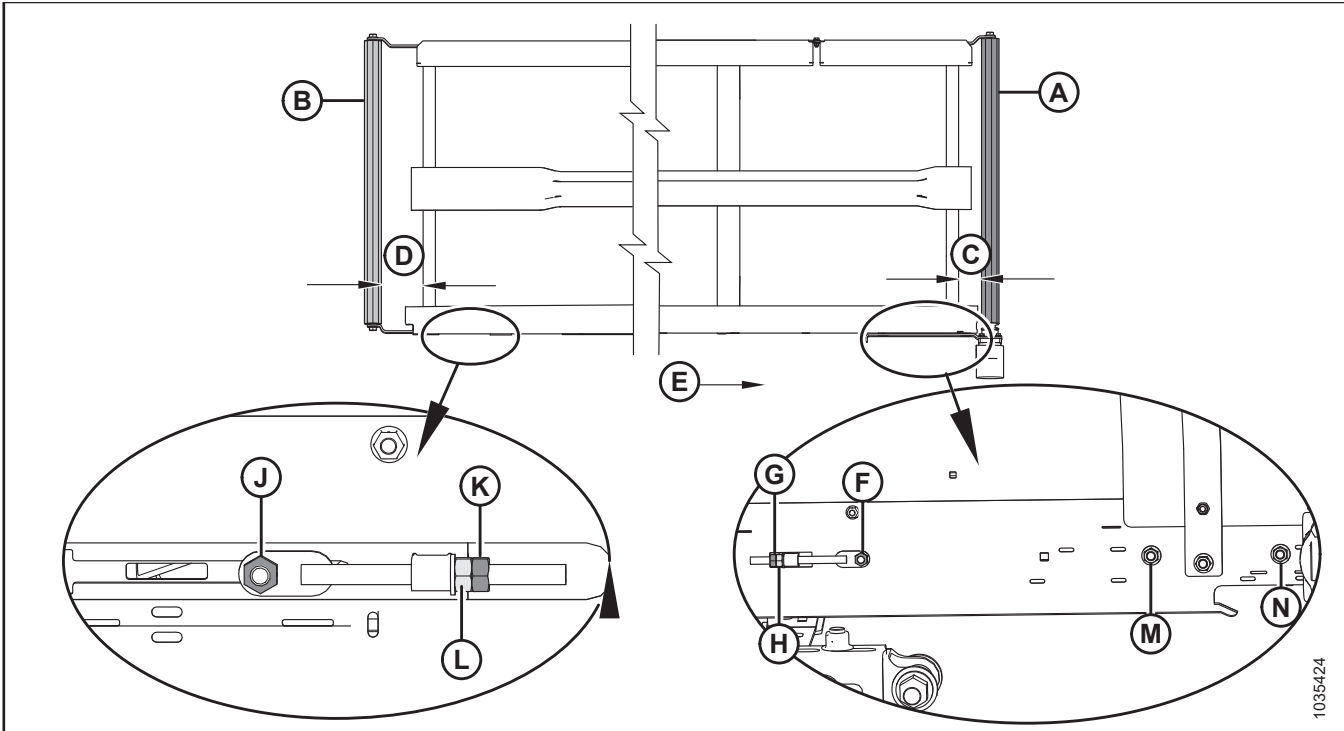

Figure 4.233: Draper Tracking Adjustments – Left Draper
2. Adjust drive roller (A) to change **C** (refer to Table 4.2, page 698 and Figure 4.233, page 698) as follows:
- a. Loosen nuts (F), (M), and (N), and jam nut (G).
- b. Turn adjuster nut (H).
- c. Tighten nuts (F), (M), and (N), and jam nut (G).
3. Adjust idler roller (B) to change **D** (refer to Table 4.2, page 698 and Figure 4.233, page 698) as follows:
- a. Loosen nut (J) and jam nut (K).
- b. Turn adjuster nut (L).